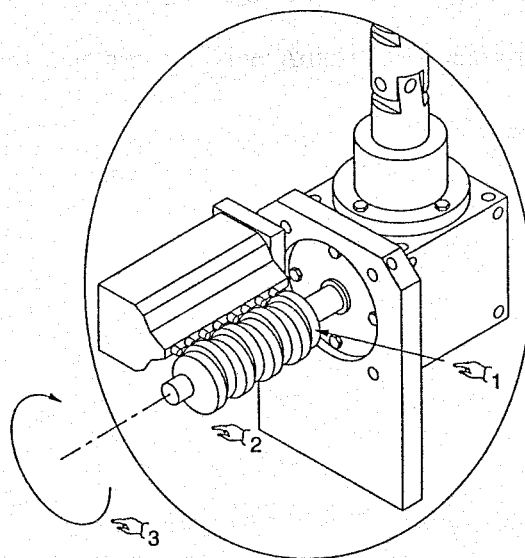

Fig. 5.9
- Adjust cams (*Part. 2, Fig. 5.9*) which activate pneumatic valves, rotating them anticlockwise (*Part. 3, Fig. 5.9*) to anticipate intervention start or clockwise to delay it.
- Container feed (*Part. 1, Fig. 5.9*)